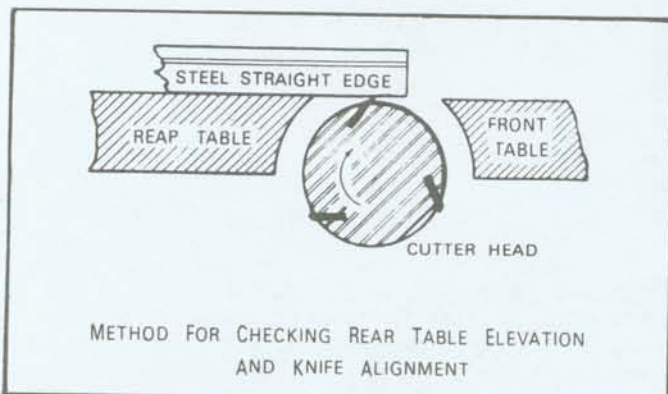

Fig.9
3. Place a straight edge on the rear table, extending over the cutterhead as shown in Fig. 9.